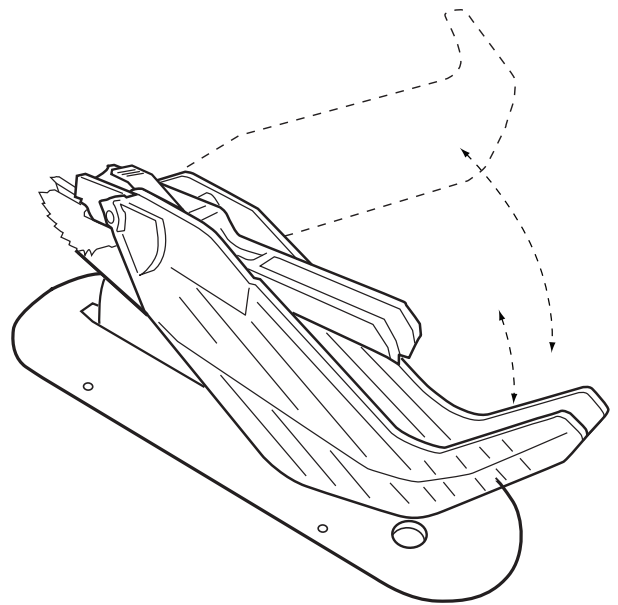

FIGURE 19
1. Refer to Figure 19 and, lifting the guard from the front, raise the guard shield until it snaps into a locked position above the table. One or both guard shields can be raised.